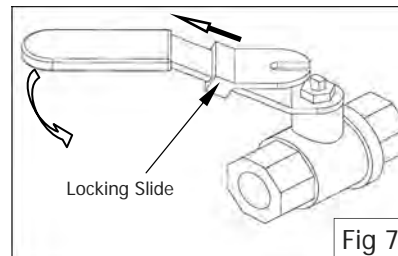

Fig 7
- b. While holding locking slide in withdrawn position, rotate handle anticlockwise (Fig 7) to open valve.